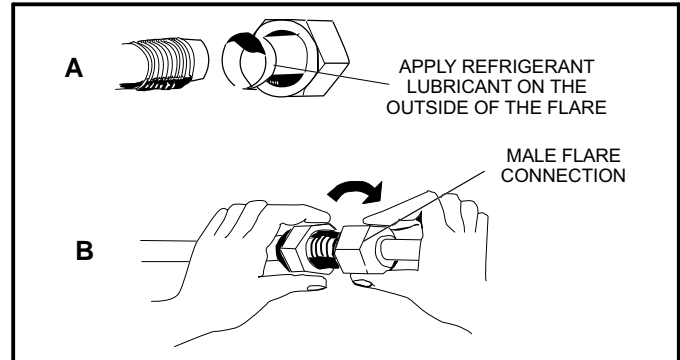

Figure 4. Making Connections at Indoor Unit (Male to Female Connection)
- 5 - Apply recommended HFC-410A refrigerant lubricant to the outside of the flared refrigerant lines (figure 4-A and figure 6).
- 6 - Align the threaded connections with the flared refrigerant lines. Tighten the flare nuts lightly at first to obtain a smooth match (figure 4-B and figure 6).